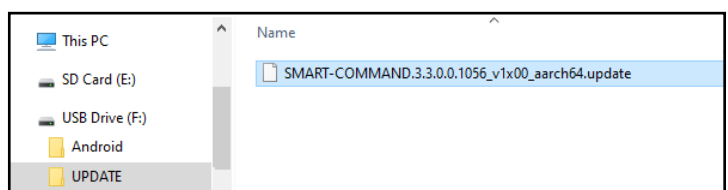

Fig. 151: Update folder with update file on USB stick
4. Save the downloaded file in the "UPDATE" folder (see Fig. 151).